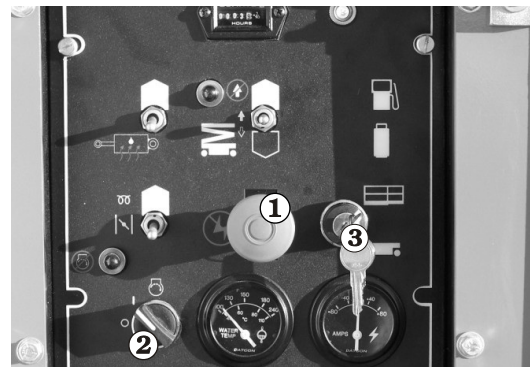

Figure 10.5
1. Push the **Emergency Stop** switch ❶ down (OFF) and set the **Main Power** switch ❷ to OFF then remove the key ❸ (see Figure 10.5).